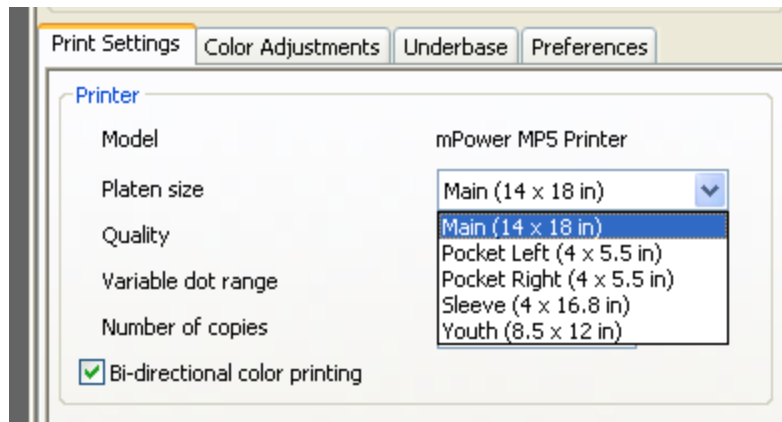

Figure 5.3g: Platen Size
- The first Tab will be the open default view, this tab is called Print Settings. The preview will match the table platen size you have selected. The default Platen setting is **Main (14 x 18 in)**, if you are using a different table the table size can be changed in the program under Platen Size and the preview print area will change to this tables dimensions. (see figure: 5.3g)